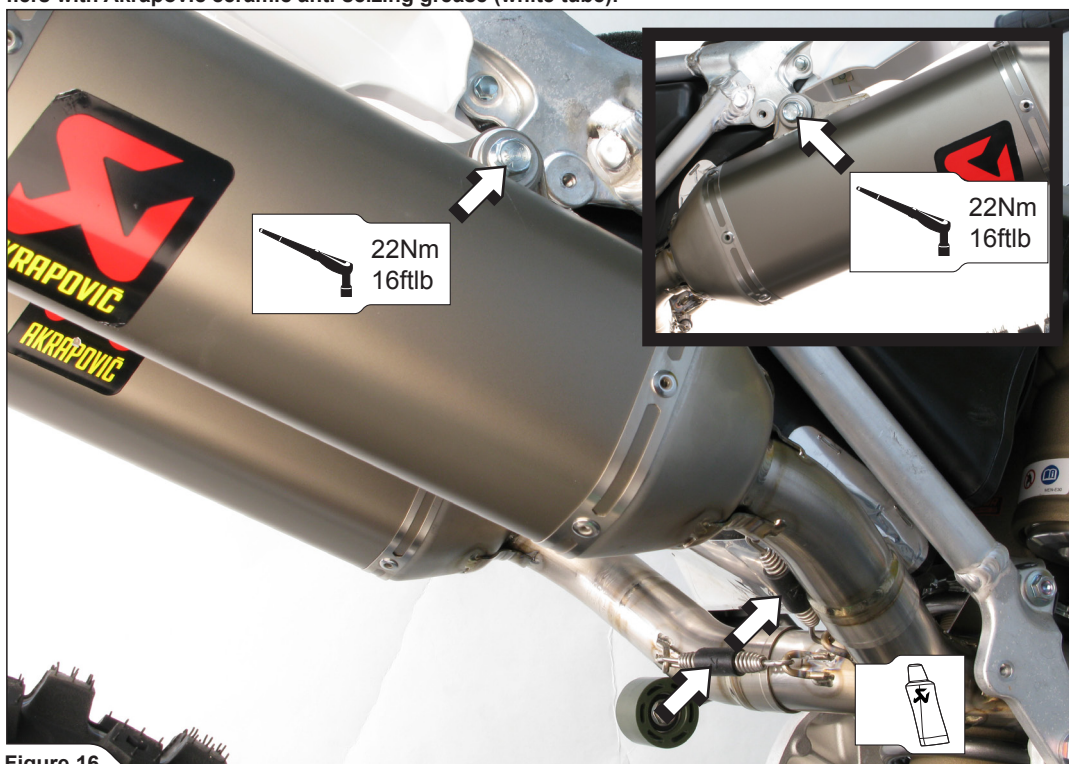

Figure 16
8. Position the mufflers correctly, slide them onto the outlets of the link-pipe and attach the springs. Align the mufflers in respect to the motorcycle and tighten the mufflers onto the sub frame, using bolts and washers from Akrapovič installation kit (Figure 16).